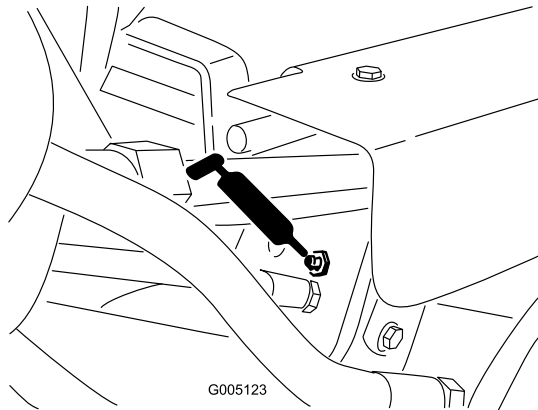

Figure 36
- Lift cylinders (3) (Figure 36)